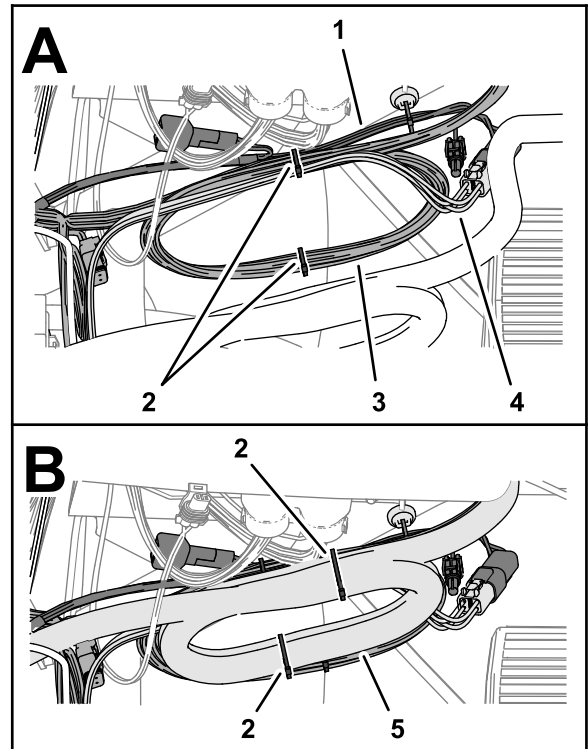

Figure 70
1. At the right, upper tube frame, bundle the navigation-data and electrical harness, and the CAN 2 ASC 10 BUS wire harness branch to the kit sprayer harness with 2 cable ties (Figure 70).
2. Bundle the modem-antenna harness and secure it to the kit sprayer harness bundle with 2 cable ties (Figure 70).